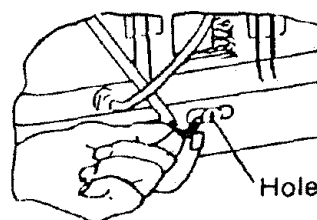

FIG. 8
5. Attach lower plastic hose to rear of unit by inserting the fitting on the end of hose into hole located midway at rear of unit (FIG.8).